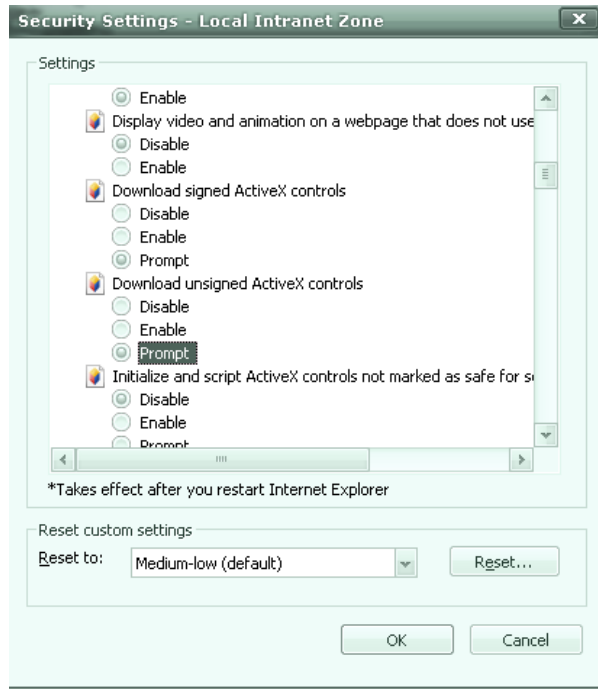

Fig. 5.4
1.Open IE, Internet Zone- Modify configuration of ActiveX in Security setting, click “Prompt” of unsigned ActiveX as figure 5.4: